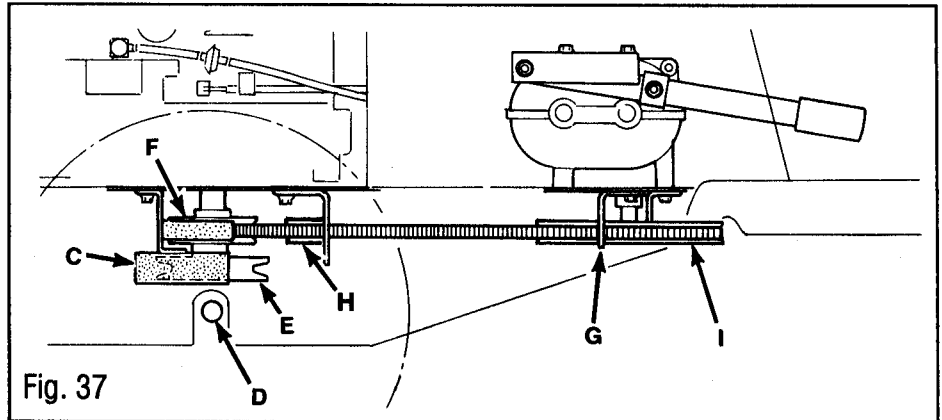

Fig. 37
4. Remove belt guide (C, Fig. 37) behind engine pulley.
- A. Place belt into sheave (F). It may be necessary to rotate differential to assemble.
- B. Loosen transmission pulley belt guides (G).
- C. Loosen idler pulley (H).
- D. Place forward portion of belt onto transmission pulley (I).
- E. Place belt between idler pulley (H) and belt guide.
- G. Re-tighten belt guides (G) $1/8"$ (.32 cm) away from sheave (F).
6. Re-install and re-tighten belt guide (C). Position guide as far forward as possible. After assembly, check clearance between guide (C) and bolt heads on differential. A $1/8"$ minimum clearance should exist.